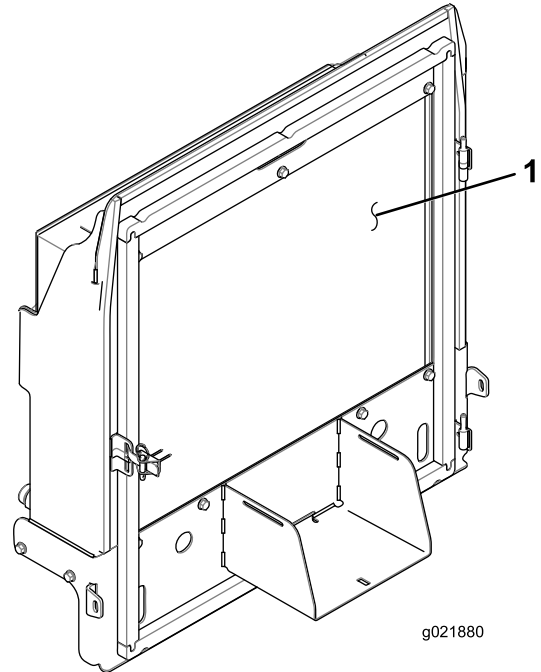

Figure 85
4. Thoroughly clean both sides of the and the radiator/oil cooler with compressed air (Figure 85).